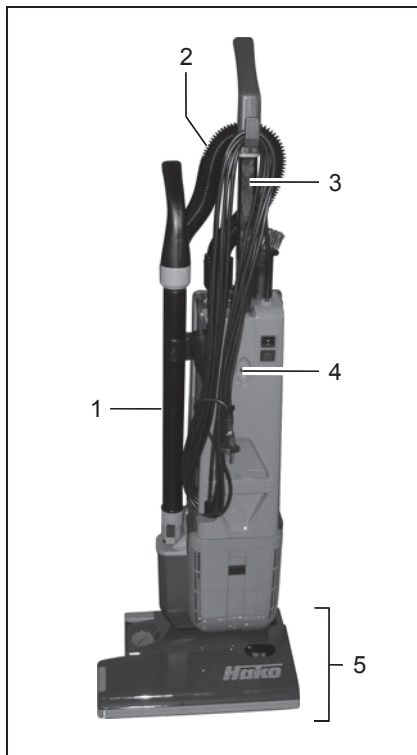
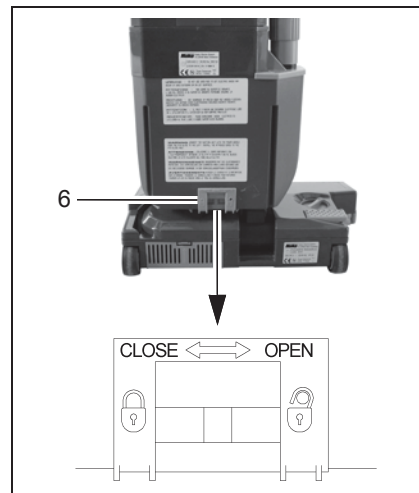

Fig. 2
Fig. 3
1. Insert the shaft (Fig. 2/3) in the opening at the top of the vacuum cleaner and press down until the locking mechanism (Fig. 2/4) engages.
2. Insert the suction hose (Fig. 2/2) in the top of the vacuum cleaner.
3. Insert the intake pipe (Fig. 2/1) at the bottom of the vacuum cleaner.
4. Insert the vacuum cleaner in accordance with Fig. 2 on the brush head (Fig. 2/5) and slide the lock (Fig. 3/6) to the left "CLOSE".